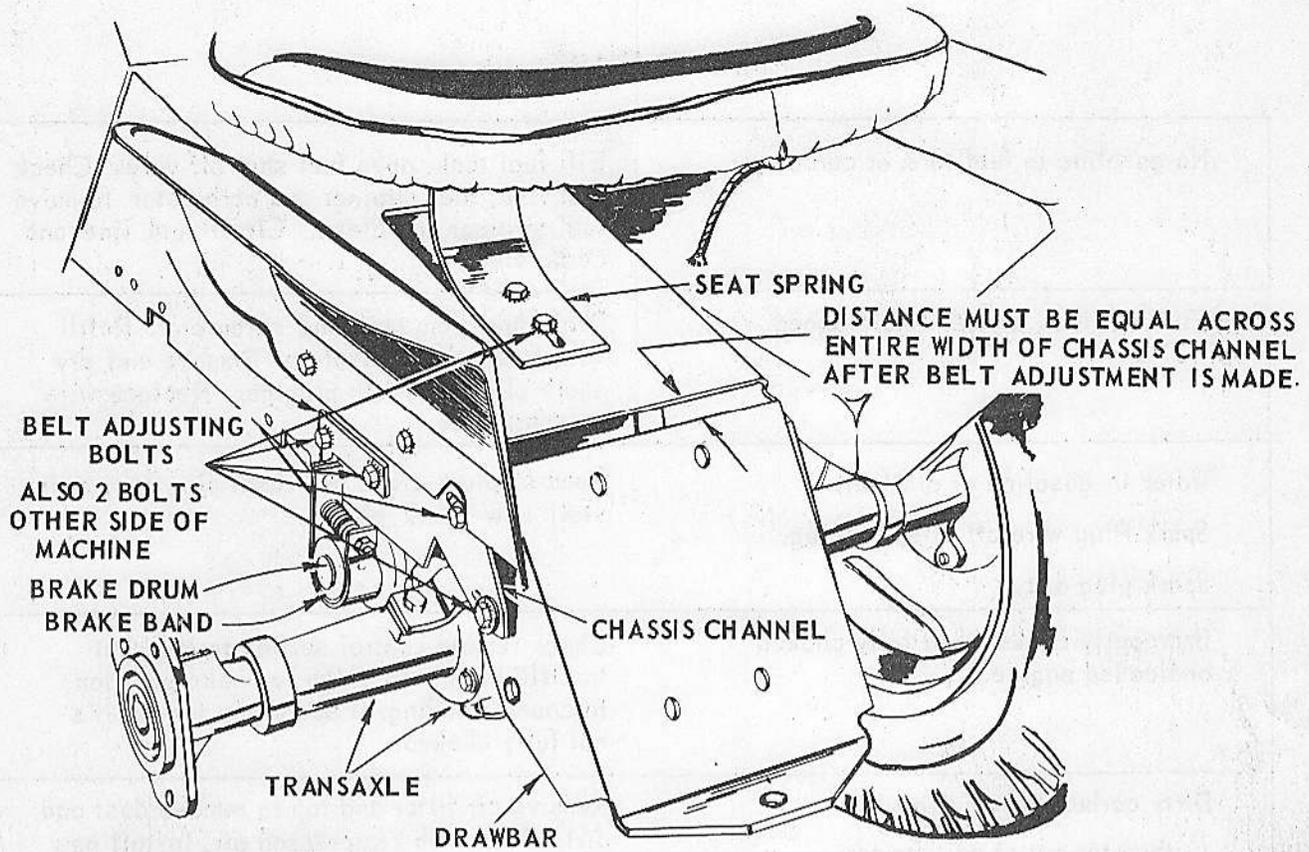
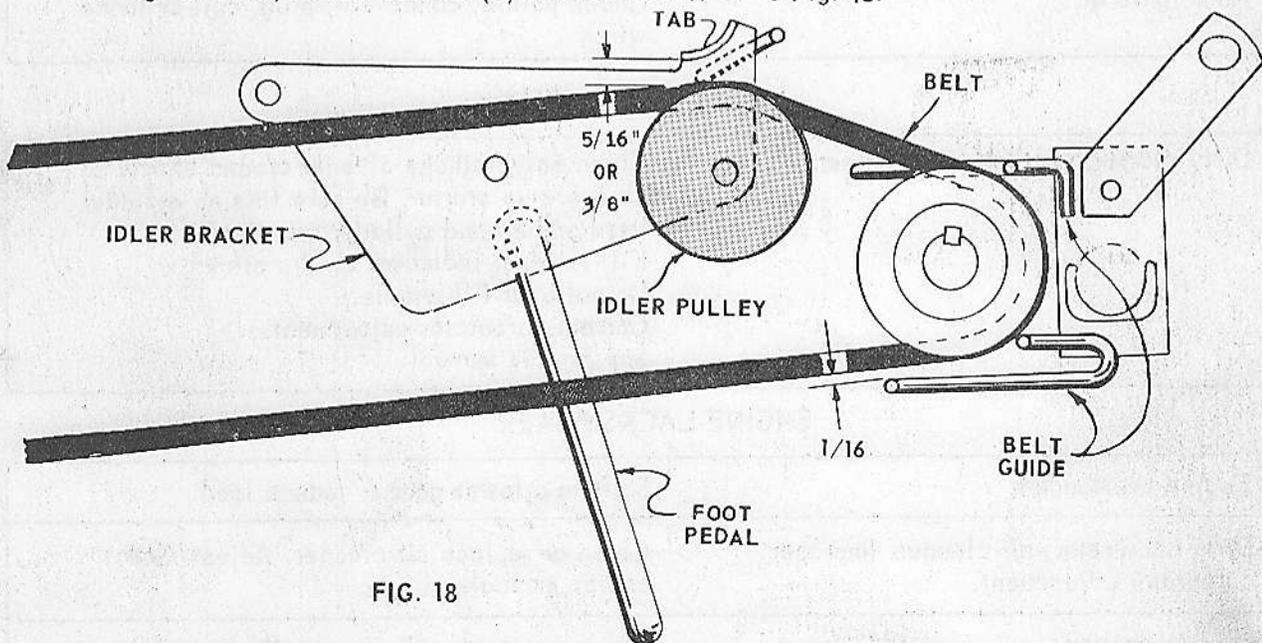

FIG. 17
FIG. 18
To adjust brake, turn rear nut (A, Fig. 15), on brake rod. Then turn front nut (B, Fig. 15), about 1 turn at a time until finger on idler bracket holds belt straight or deflects belt not more than $1/8''$, when foot pedal is fully depressed, (pushed forward), and brake band makes solid contact with brake drum. NOTE: Belt must be straight or deflected slightly when pedal is depressed for clutch to release properly. Check belt guides at engine pulley. Guides must clear belts by $1/16''$ when clutch is engaged. Refer to Fig. 18.
1. Loosen bolts holding transaxle and brake to chassis channel. (Total eight) Two on each side in chassis and drawbar, two in L.H. chassis side and brake bracket, two in seat spring and chassis. See Fig. 17. Also, loosen front nut (B) on brake rod. Refer to Fig. 15.
2. Depress foot pedal and place a $\frac{3}{8}$ " block between tab on idler bracket and belt as shown. (If $\frac{3}{8}$ " block is not available a common lead pencil can be used which is about $\frac{5}{16}$ " round). See Fig. 18. Pull drawbar and transaxle assembly to rear, Fig. 17, until foot pedal just starts to move forward, Fig. 18. Tighten bolts in R.H. chassis channel side and drawbar. Be sure space between drawbar and chassis, Fig. 17, is equal on both sides and tighten L.H. bolts and seat spring bolt securely. If spacing between chassis and drawbar is not equal tractor will not track properly.
5. Check belt guides at engine pulley. Belt guides must clear belts by $1/16$ inch when clutches are engaged. See Fig. 18.